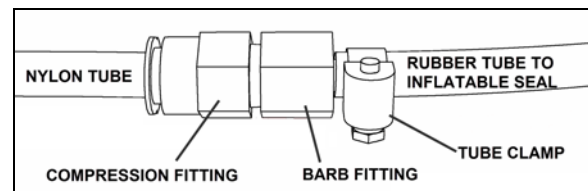

FIGURE 31: TYPICAL INFLATABLE SEAL AIR INLET
2. Unplug the nylon tubing from the compression fitting (Figure 31).